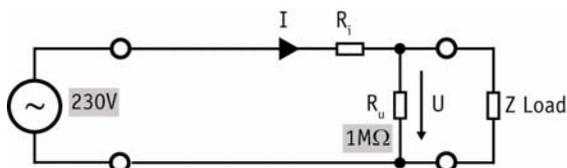
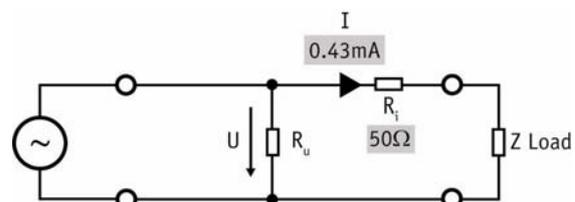

Fig 1: Voltage correct measurement
Fig 2: Current correct measurement
When measuring a power consumption there are two principle measuring circuits. One (fig. 1) measures the correct voltage and a wrong current. The other one measures a correct current, but a wrong voltage (fig. 2).
For high currents it is usual to use the circuit according fig. 1. The reason is that the power consumption of the current measuring channel is defined by $I^2 \cdot R_i$, so it raises very fast with higher currents. The power consumption of the voltage measuring channel is U^2/R_u , so with 230V line voltage it is independent of the load. Typical power measuring instruments have R_u in the range of $1M\Omega$, so the power loss in the voltage channel is in the range of 0.053W. The lost power of the current channel can become several Watt with usual line applications (e.g. $R_i=10m\Omega$, result at 10A in 1W loss power). So the circuit according to fig. 1 will give power reading of just 0.053W failure while circuit according to fig. 2 would give an 1W failure.
fig. 2 because it does reduce the failure by a factor of more than 5000!
- For measuring standby power use the circuit with the correct current acc. fig. 2